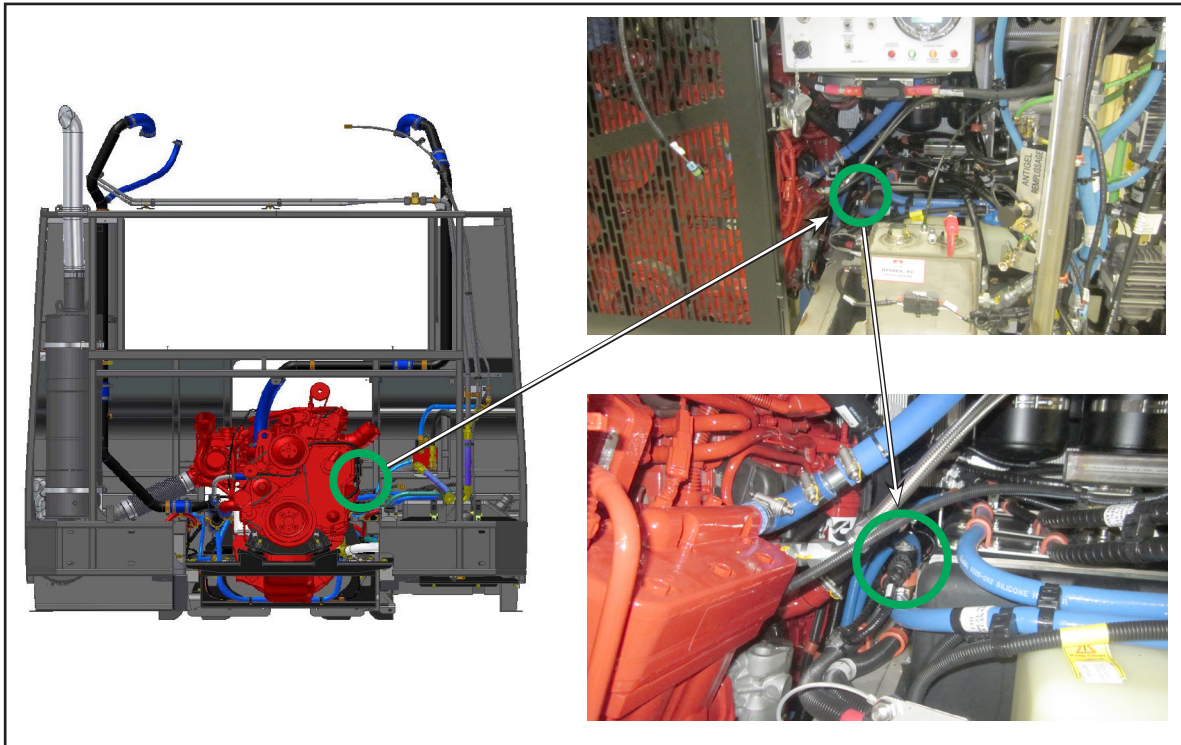

Figure 1 - Coolant Control Valve Location
- 1.2. Locate the coolant control valve. See Figure 1.